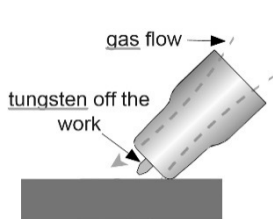

Fig. 51
2. Set the welding current using the amperage control dial (D).
5. With a small movement, rotate the Gas Cup forward so that the Tungsten Electrode touches the workpiece (Fig. 51 and 52).